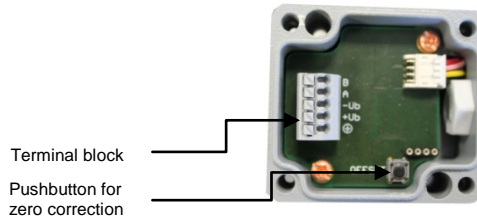

Fig. 3: Connection diagram
The DPT 100 can be zeroed via a button. To do so, press the button (Fig. 3) for about 3 seconds.
6. Press the button (Fig. 3) for about 3 seconds.